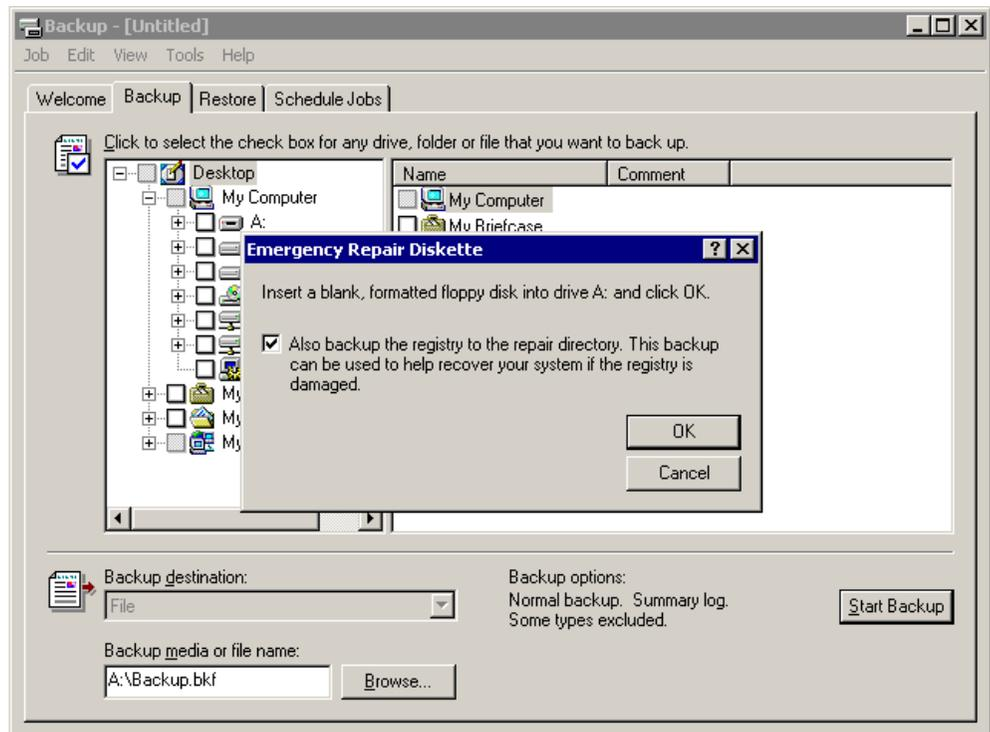

Figure 106. ERD creation
2. Click the **Emergency Repair Disk** button. Figure 106 appears: